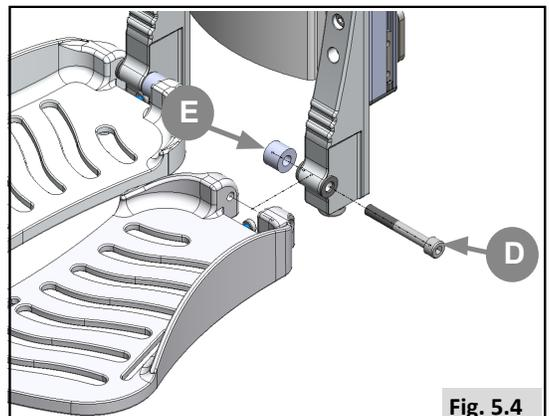

Fig. 5.4
- Remove bolt (D) with an Allen key, Figure 5.4.
- Move spacer (E) from inside of footrest to the outer side.